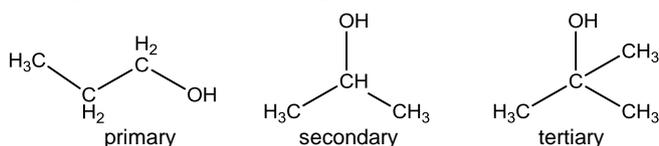

Fig. 1 Structural formulas of the various alcohols.
Alcohols can be subdivided into primary, secondary and tertiary alcohols. They differ only in the position of the OH group. In the case of primary alcohols, this is located on the end carbon atom. In the case of secondary alcohols, it is located on a carbon atom with two neighbouring carbon atoms and in the case of tertiary alcohols on a carbon atom with three neighbouring carbon atoms (see Fig. 1).
1. The apparatus is set up as can be seen in Fig. 1. For safety reasons, set up the apparatus behind a safety screen or in a fume hood.